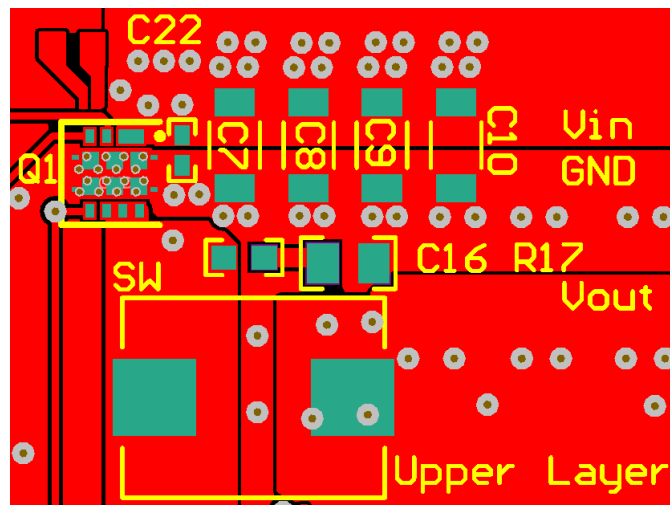
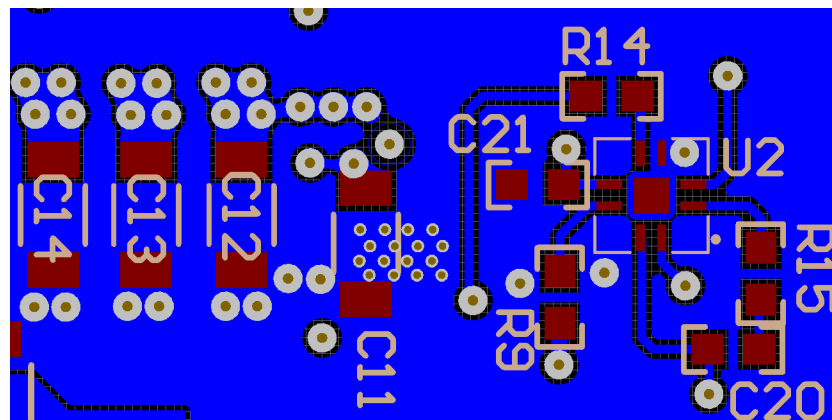

图 33. Recommended PCB Layout (Top Down View)
图 34. Recommended PCB Layout (Bottom View)
- The placement of the input capacitors relative to the power block's VIN and PGND pins should have the highest priority during the component placement routine. It is critical to minimize these node lengths. As such, ceramic input capacitors need to be placed as close as possible to the VIN and PGND pins (see Figure 33). It is recommended that one 3.3-nF (or similar), 0402, 50-V ceramic capacitor be placed on the top side of the board as close as possible to VIN and PGND pins. In addition, a minimum of 40 μF of bulk ceramic capacitance should be placed as close as possible to the power block in a design. For high-density design, some of these ceramic capacitors can be placed on the bottom layer of PCB with appropriate number of vias interconnecting both layers.
- The switching node of the output inductor should be placed relatively close to the power block VSW pins. Minimizing the node length between these two components will reduce the PCB conduction losses and actually reduce the switching noise level. In the event the switch node waveform exhibits ringing that reaches undesirable levels, the use of a boost resistor or RC snubber can be an effective way to easily reduce the peak ring level. The recommended boost resistor value will range between 1.0 Ω to 4.7 Ω depending on the output characteristics of driver IC used in conjunction with the power block. The RC snubber values can range from 0.5 Ω to 2.2 Ω for the R and 330 pF to 2200 pF for the C. Please refer to Snubber Circuits: Theory, Design and Application (SLUP100) for more details on how to properly tune the RC snubber values. The RC snubber should be placed as close as possible to the VSW node and PGND (see Figure 33 and Figure 34).
- Use the smallest drill size allowed in your design. The examples in 图 33 and 图 34 use vias with a 10-mil drill hole and a 16-mil capture pad.